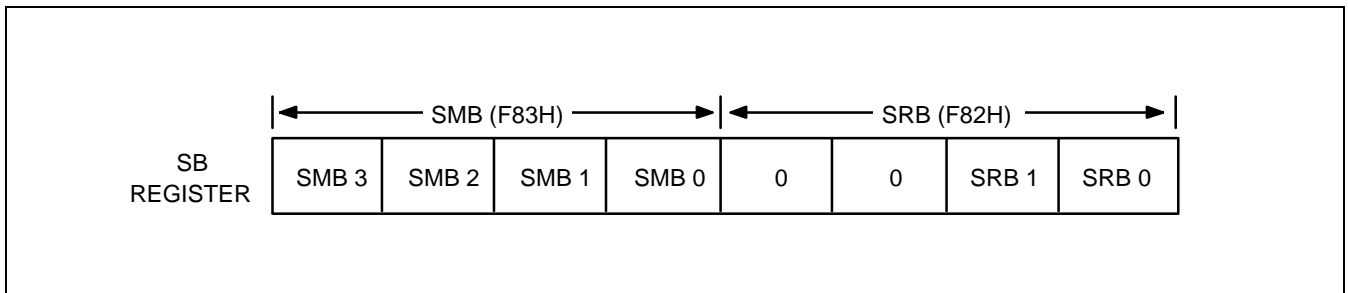

Figure 3–2. SMB and SRB Values in the SB Register
The select bank register (SB) is used to assign the memory bank and register bank. The 8-bit SB register consists of the 4-bit select register bank register (SRB) and the 4-bit select memory bank register (SMB), as shown in Figure 3–2.